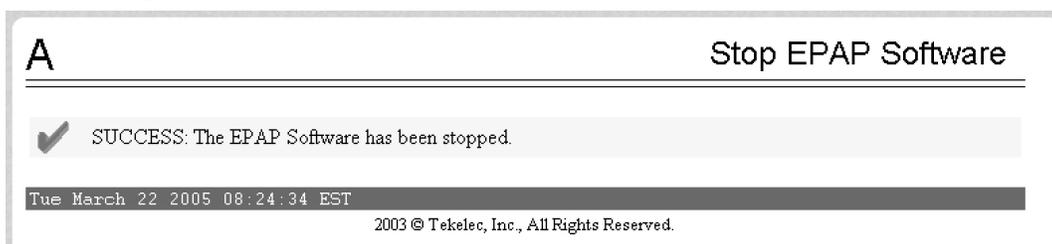

Figure 25: Stop EPAP Software - Success
- When you stopped the software on the selected EPAP, the screen in Figure 25: Stop EPAP Software - Success displays: